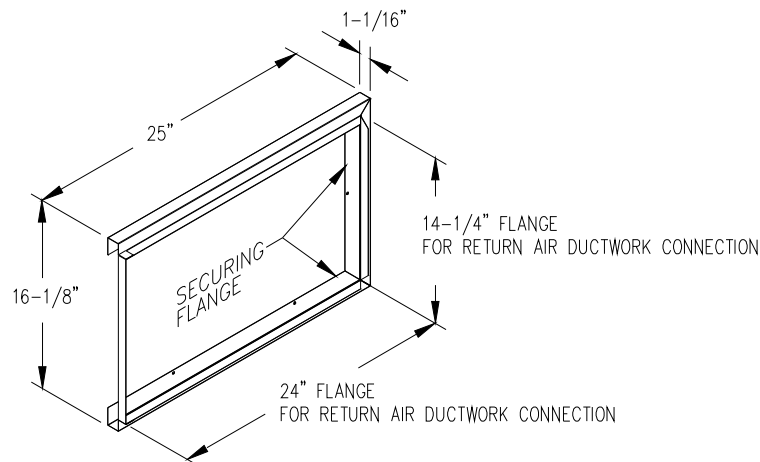

Fig. 2: A typical filter rack and dimensions for the VCSHB furnace.**
The filter rack provided with the furnace, refer to Fig. 2, will serve as a template to scribe a mark for the return air opening on the casing. Place the filter rack on a side casing approximately one inch up from the bottom of the furnace and centered from side to side. Place the securing flange against the casing when locating the return air opening. For your convenience, (4) locator knock-outs have been placed at the proper locations on both the left and right side casings.
Connect the return air plenum to the filter rack and slide the filter into place. Dimensions for adapting the return air plenum to the filter rack are provided (See Fig. 2).